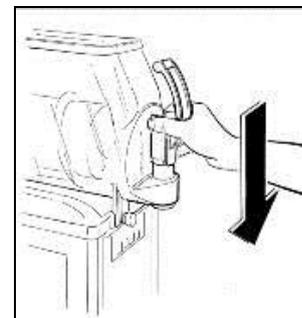

Fig. 27
- Re-insert the tap (fig.27) spreading Vaseline on the O-rings to facilitate sliding the tap in its seat until completely inserted.